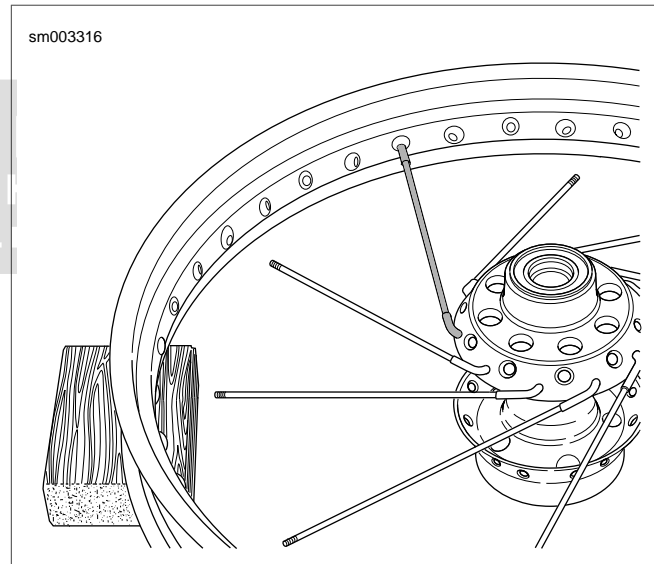

Figure 2-45. Lower Row into Rim
- See Figure 2-45. Using any **lower** row spoke, place the first spoke into the rim hole, angled to correctly accept the spoke, on the upper half of the rim centerline.